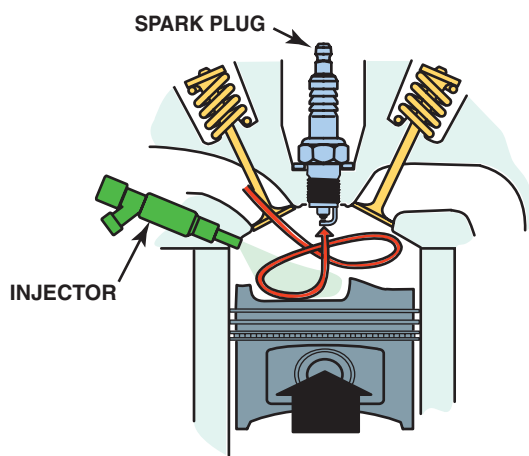

FIGURE 79-7 The side injector combines with the shape of the piston to create a swirl as the piston moves up on the compression stroke.
- **Swirl combustion.** This design uses the shape of the piston and the position of the injector at the side of the combustion chamber to create turbulence and swirl of the air-fuel mixture. ● **SEE FIGURE 79-7.**